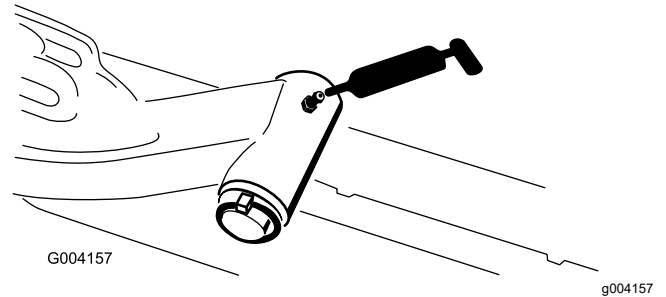

Figure 44
- Lift-arm pivot shaft (1 each)—Figure 44